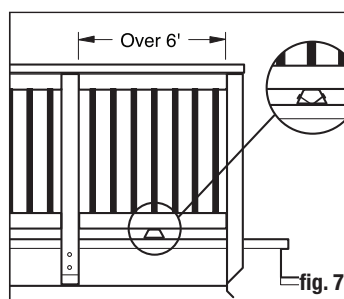

fig. 7
Step 6: For rail sections longer than 4', support blocks are required. These can be made from leftover 2x4 rail material. Properly position the support block and toe-nail it to the bottom rail and deck board (fig. 7).